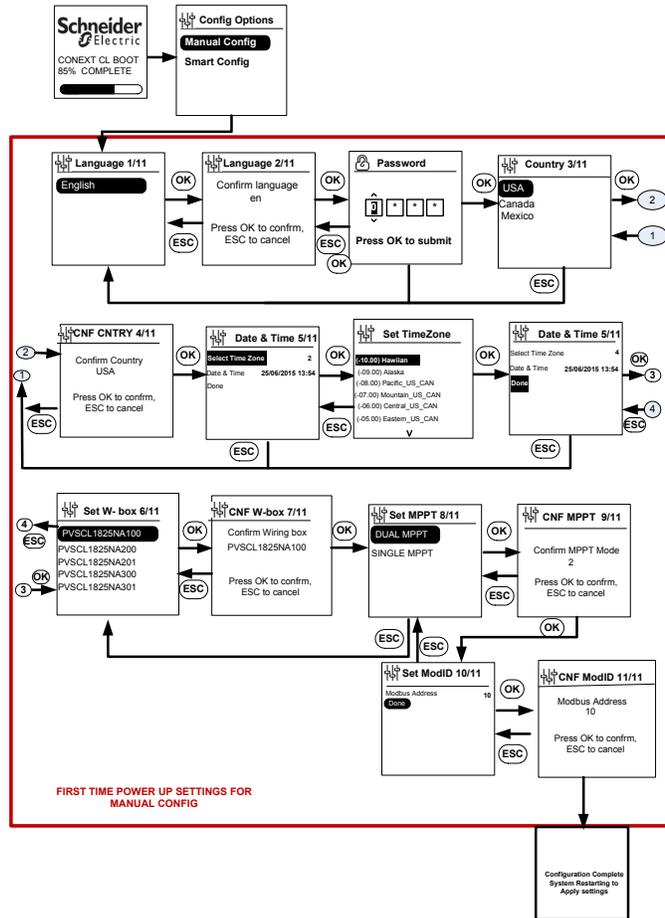

Figure 1-16 Configuration Info screen
- t) Once firmware is upgraded successfully the inverter DUI shows the first time configuration screen. User needs to configure the inverter appropriately as shown in Figure 1-16 on page 1–18. Once configured, the inverter will reboot and be ready for operation.